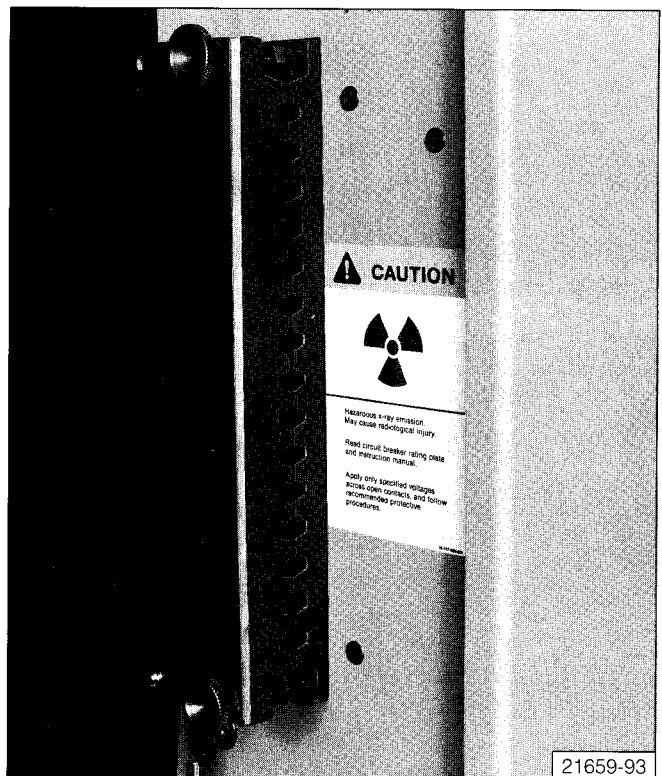

Figure 7: Split Plug Jumper Connected to Circuit Breaker.
2. Install breaker end of split plug jumper (if furnished) shown in **Figure 7** to the circuit breaker. The plug jumper is secured by means of screws, over the circuit breaker's secondary contacts.